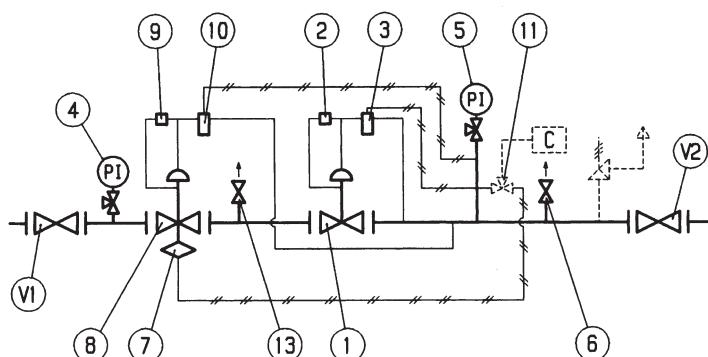

Fig. 22
5.7 MESSA IN SERVIZIO DEL REGOLATORE APERVAL PIÙ MONITOR IN LINEA APERVAL CON VALVOLA DI BLOCCO VB/93 (FIG. 22)
5.7 COMMISSIONING THE REGULATOR APERVAL PLUS APERVAL IN LINE MONITOR WITH INCORPORATED VB/93 SLAM-SHUT (FIG. 22)
5.7 INBETRIEBNAHME DES REGLERS APERVAL MIT IN REIHE GESCHALTETEM MONITOR APERVAL MIT INTEGRIERTEM SAV VB/93 (ABB. 22)
5.7 MISE EN SERVICE DU DETENDEUR APERVAL ET MONITOR EN LIGNE APERVAL, AVEC VANNE DE SECURITE INCORPOREE (FIG. 22)
5.7 PUESTA EN SERVICIO DEL REGULADOR APERVAL CON MONITOR EN LÍNEA APERVAL Y VÁLVULA DE BLOQUEO INCORPORADA VB/93 (FIG. 22)
5.7 ACTIVACIÓN DO REGULADOR APERVAL COM MONITOR EM LINHA APERVAL E VÁLVULA DE BLOQUEO INCORPORADA VB/93 (FIG. 22)